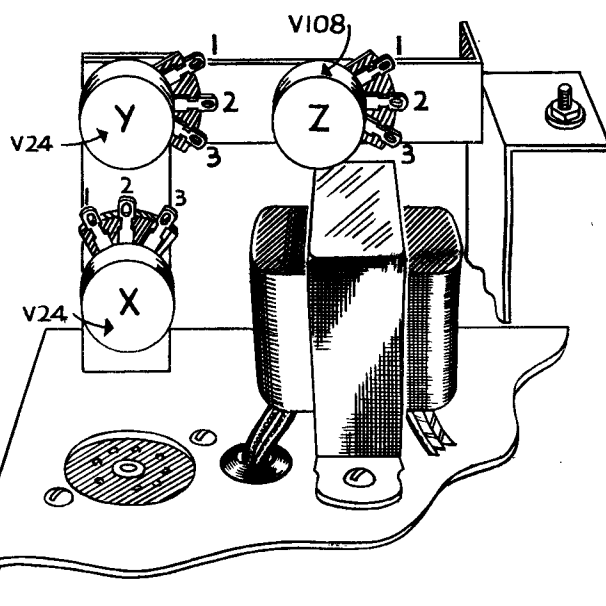

Fig. 3
- (✓) Step 11. Fasten the long L bracket to the Z bracket by means of a 6-32 screw, lockwasher and nut. (Note figure 3 to make certain that the three above controls are mounted correctly.)